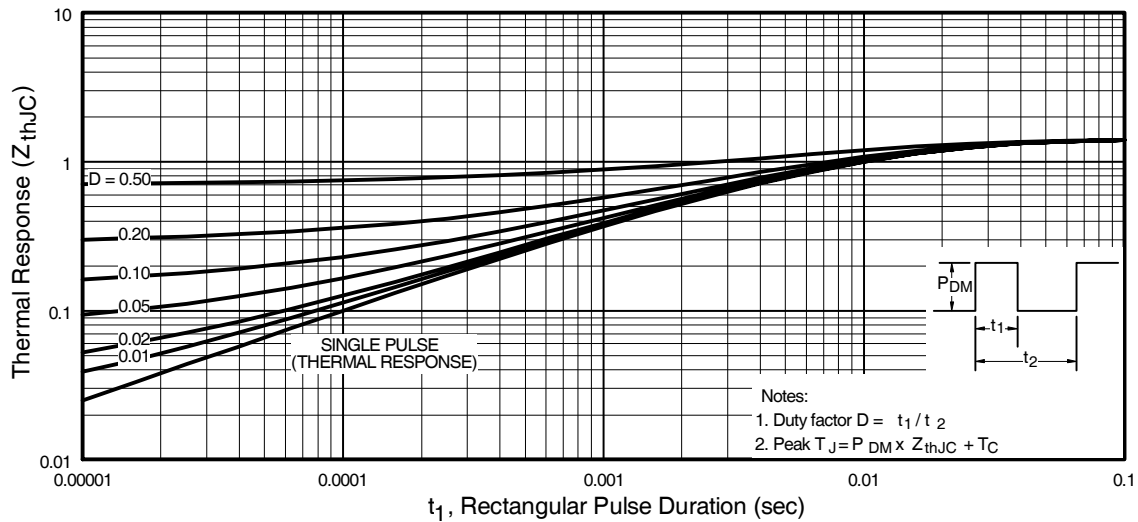

Fig 11. Maximum Effective Transient Thermal Impedance, Junction-to-Case
① Repetitive rating; pulse width limited by max. junction temperature. (See fig. 11)
② $V_{DD} = -25V$, starting $T_J = 25^\circ\text{C}$, $L = 2.1\text{mH}$